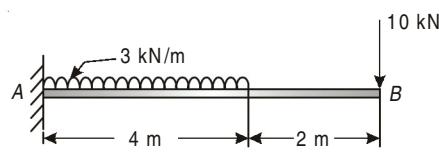

Fig. 4.34
- 4.8. Cantilever AB is fixed at A . It is 6 m long. It carries loads as shown in Fig. 4.34 Calculate slope and deflection at the free end B in terms of flexural rigidity EI .